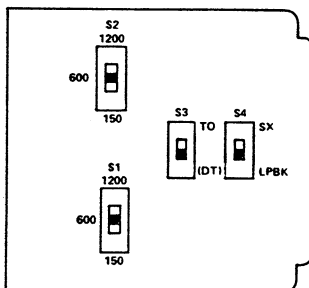

figure 3. Switch locations
3.05 Four option switches must be set on the 4411A before inserting the module into its shelf position. Figure 3 shows the relative positions of these four switches on the printed circuit board.